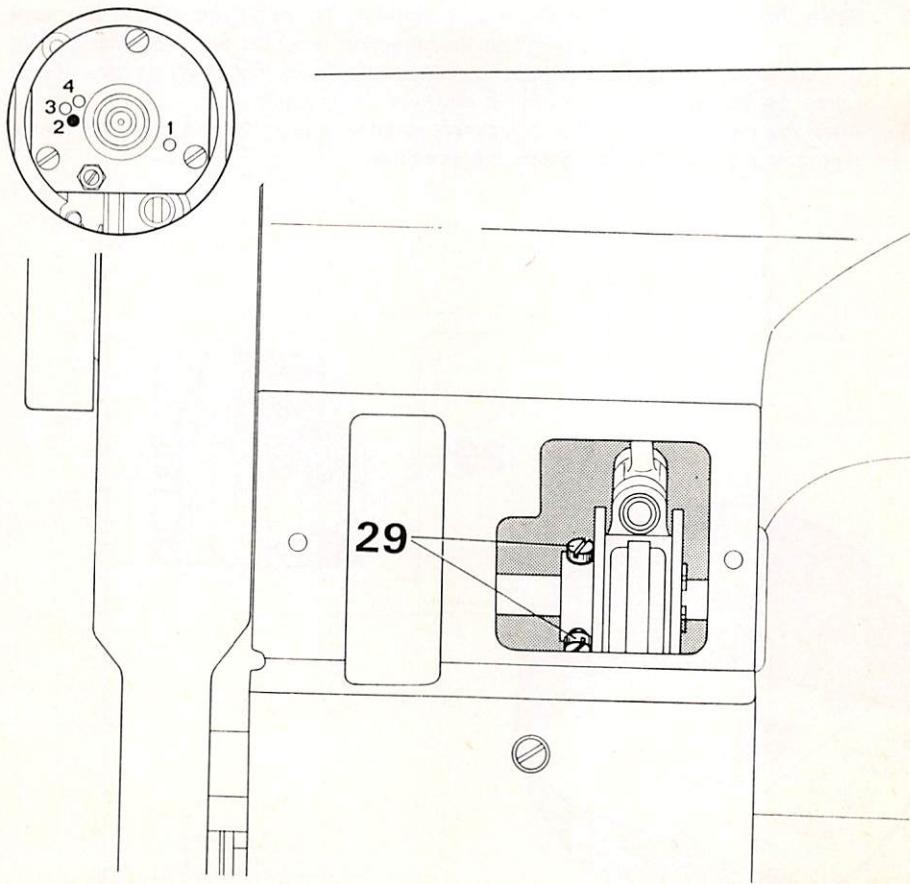

Fig. 9
6. Adjusting the Needle Throw (Fig. 9)